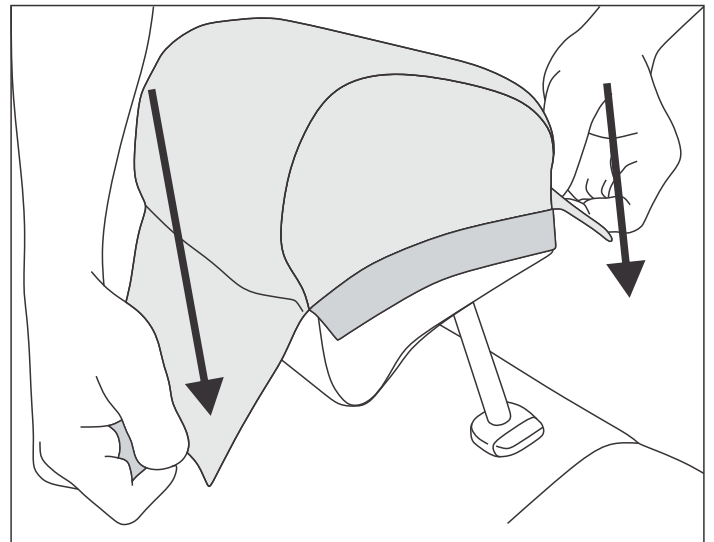

Fig. 11
11. To install the headrest covers, wrap the cover over the headrest from the back to the front keeping it aligned at all times (Fig. 11).